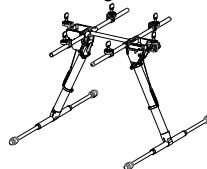

Fig. 2
**Lower** : Toggle the switch to this position to lower the Landing Gear (Fig. 2)